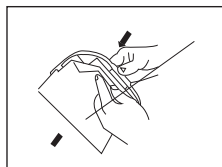

Fig. 15
4. Press the tab on the dust bag holder, insert the new dust bag into both grooves and let go of the tab (fig. 15).